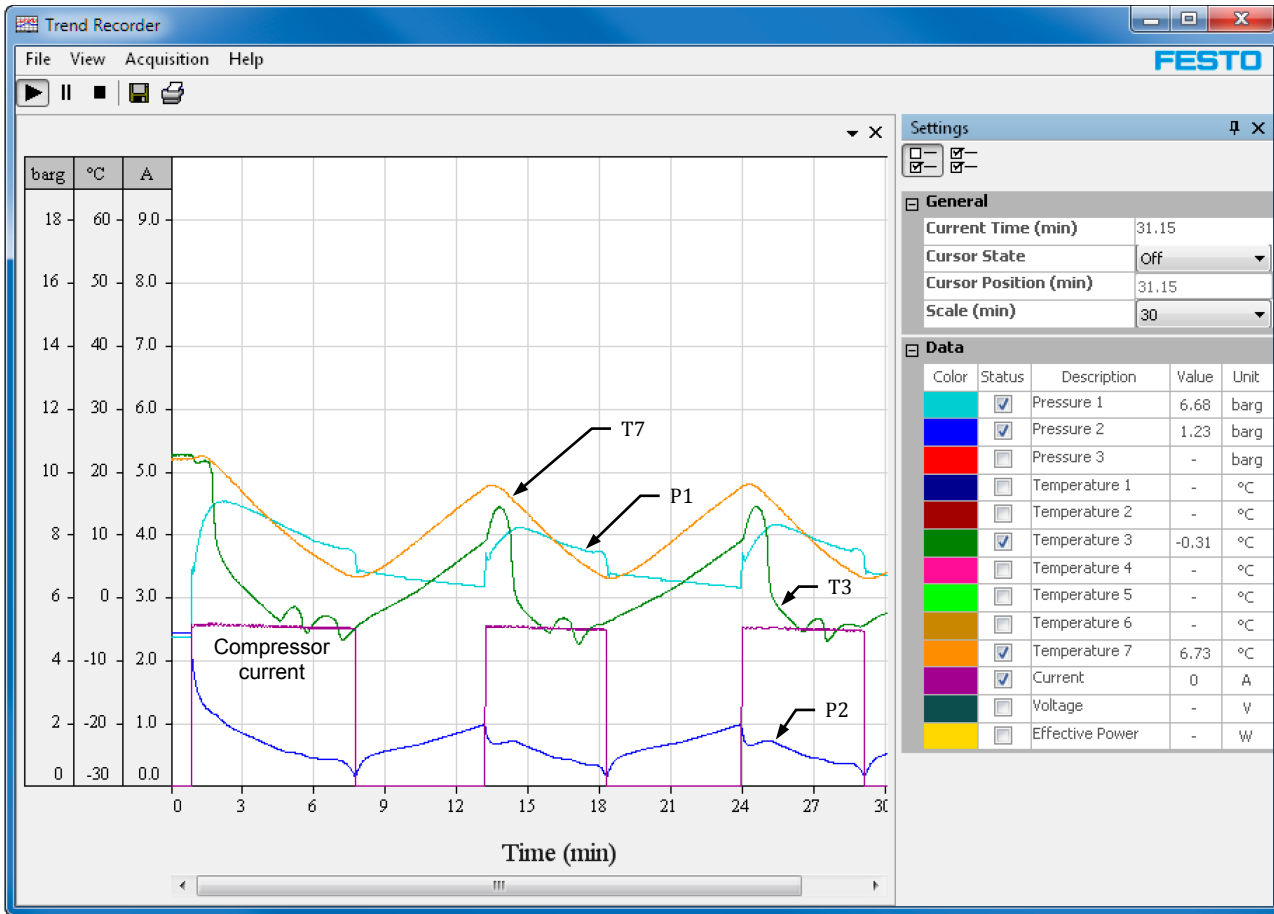

Figure 30. Trend Recorder of the LVHVAC software displaying selected variables as a function of time.
2. Activate the Trend Recorder of the LVHVAC software: in the menu bar of this software, select the *Tools* menu, and then select the *Trend Recorder* option. This brings up the Trend Recorder, as Figure 30 shows (without the signals displayed in this figure, since the recorder has not been started yet):